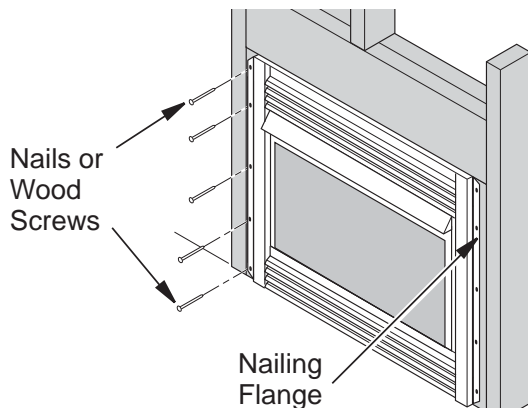

Figure 15 - Attaching Fireplace to Wall Studs
6. Attach fireplace to wall studs using nails or wood screws through holes in nailing flange (see *Figure 15*).